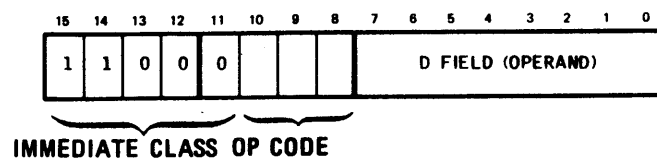

Figure 3-5. Class 2 Machine Language Format
- a. The evaluated expression must not exceed eight binary bit positions. (see Figure 3-5).